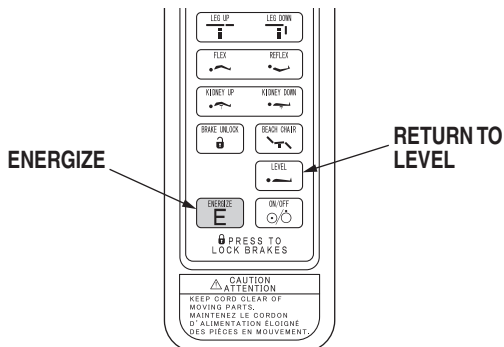

Figure 2-15. Return to Level
j. Return To Level To return the table top to a level position, press the ENERGIZE button and then the LEVEL button (figure 2-15).